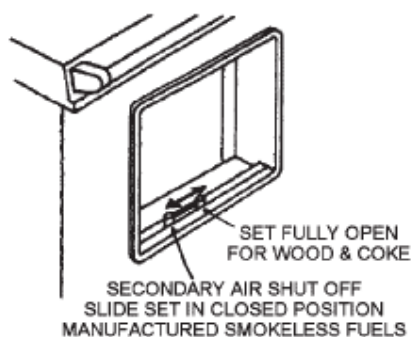

Fig. 6
- k) With fire established, open firebox door and fill firebox with fuel. Check secondary air slide setting (Fig. 6). **Close and lock firebox door.** Push flue chamber damper back to position which has been found to give desired burning rate.
- k) With the fire established open the firebox door and fill firebox with fuel. Check secondary air slide setting (Fig. 6). **Close and lock the firebox door.** Push the flue chamber damper back to position which has been found to give best results. Set spinwheel control to give desired burning rate.